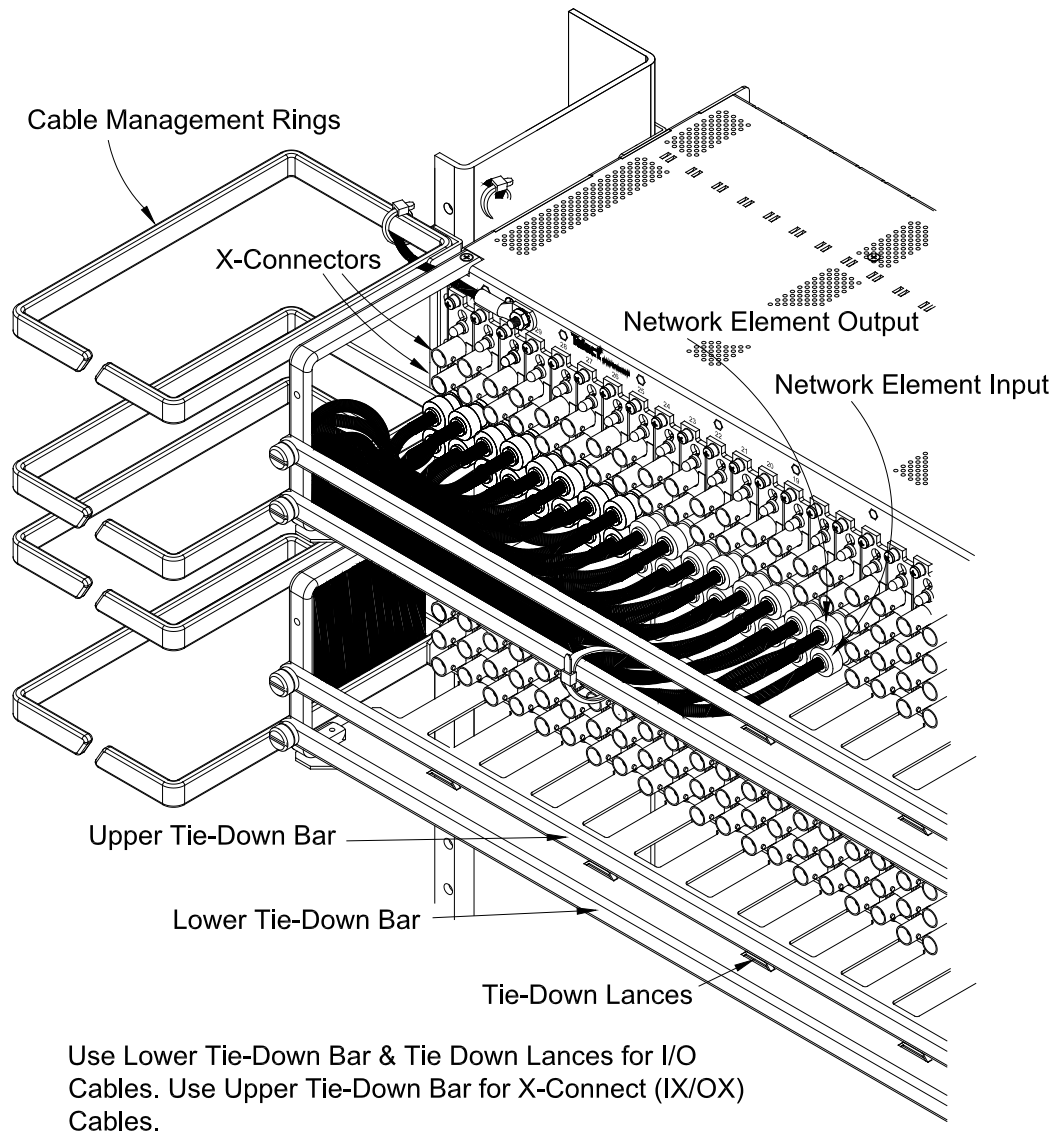

Figure 25 - Connections
7. Connect I/O cables to the rear of the chassis, as shown in figure 25. In general,